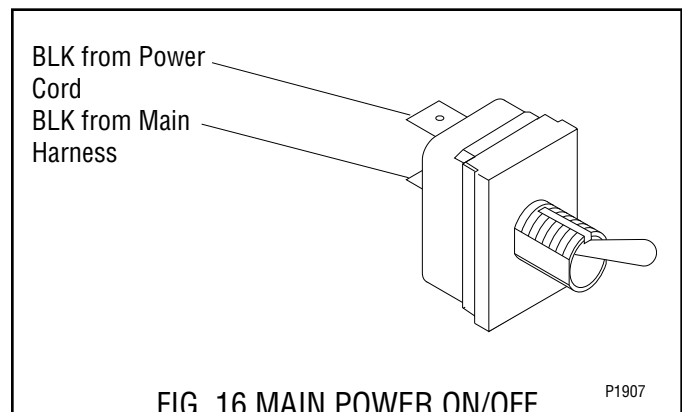

FIG. 16 MAIN POWER ON/OFF SWITCH TERMINALS
8. Connect the wires to the new switch, refer to Fig. 16.